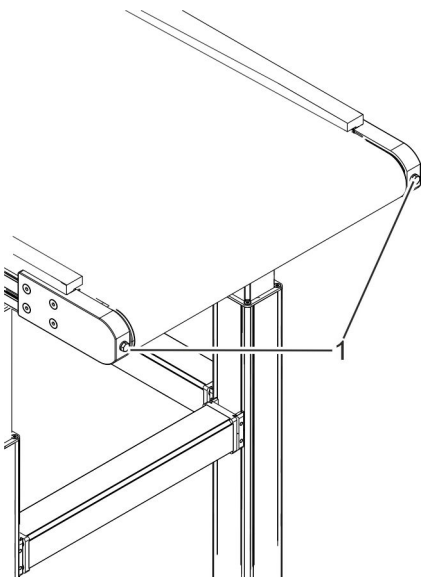

Fig. 73: Tightening the clamping screws
2. ➤ Tighten the clamping screws (Fig. 73/1) evenly until the required pre-load is achieved.